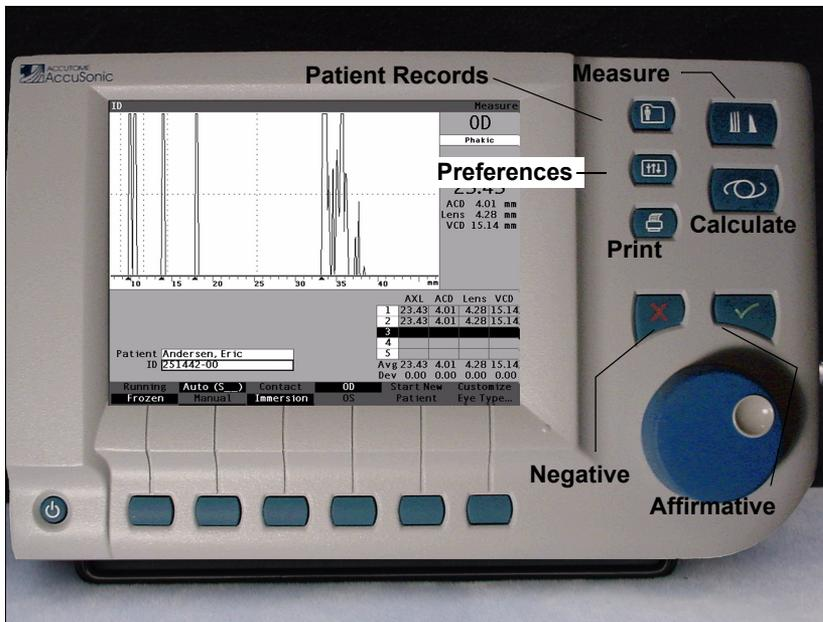

Figure 17 Measure Screen Displayed
1. Press and hold the Preferences button (see Figure 17 on page 31).
1. Press the Calculate button, located at the right side of the front panel (see Figure 17 on page 31).